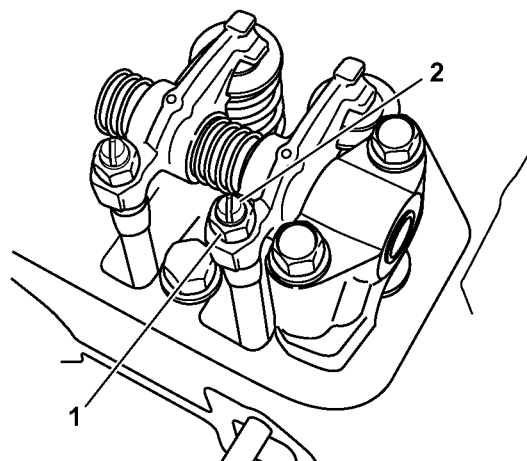
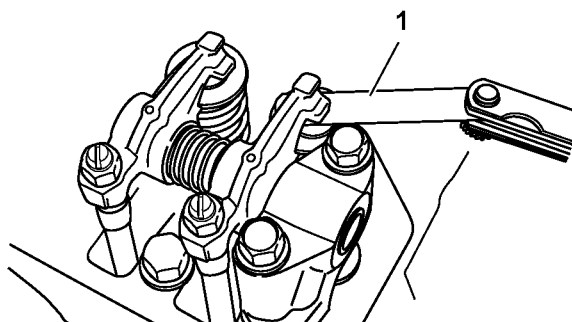

Figure 6-78
Figure 6-79
5. Loosen the valve adjusting screw lock nut (Figure 6-78, (1)) and valve adjusting screw (Figure 6-78, (2)) on the rocker arm and check the valve for inclination of the valve cap, entrance of dirt, or wear.
6. Insert a feeler gauge of the correct thickness (Figure 6-79, (1)) (see *Adjustment Specifications on page 6-4*) between the rocker arm and valve cap. Turn the valve adjustment screw to adjust the valve clearance so there is a slight "drag" on the feeler gauge when sliding it between the rocker arm and the valve cap. Hold the adjusting screw while tightening the valve adjusting screw lock nut (Figure 6-78, (1)). Recheck the clearance.